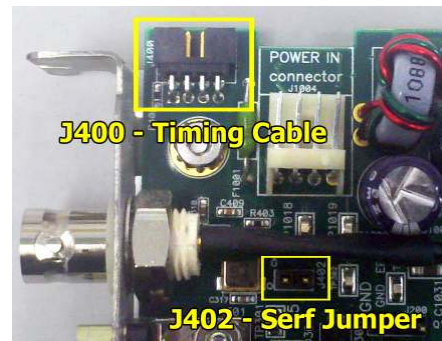

Figure 2. Series G Control Board, J400 and J402 Highlighted.
- 1) Locate the two potentiostat control boards. You will need to designate one as the Master and one as the Serf (make note of the serial numbers for reference). Figure 2 shows the upper left corner of the control board and the location of the relevant connections.